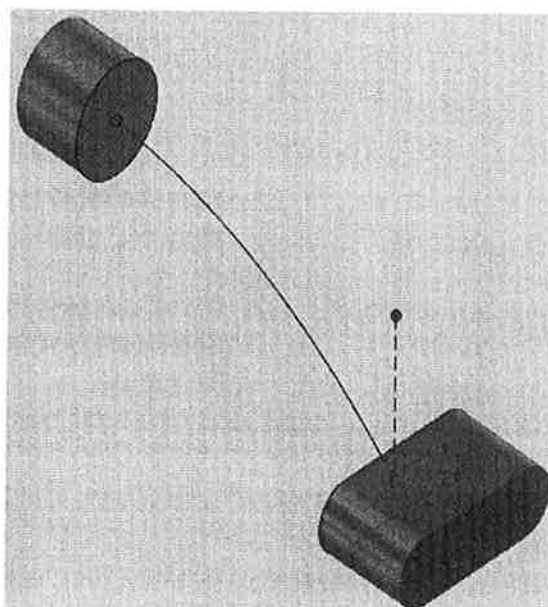

Figure 12-19
5. Complete the sketch. The model should display similar to that shown in Figure 12-19.